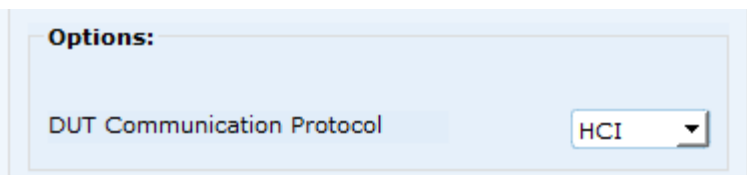

Figure 17. DUT Communication Protocol setting in RTX2254 GUI
- HCI in EUT Communication Protocol (Figure 17).